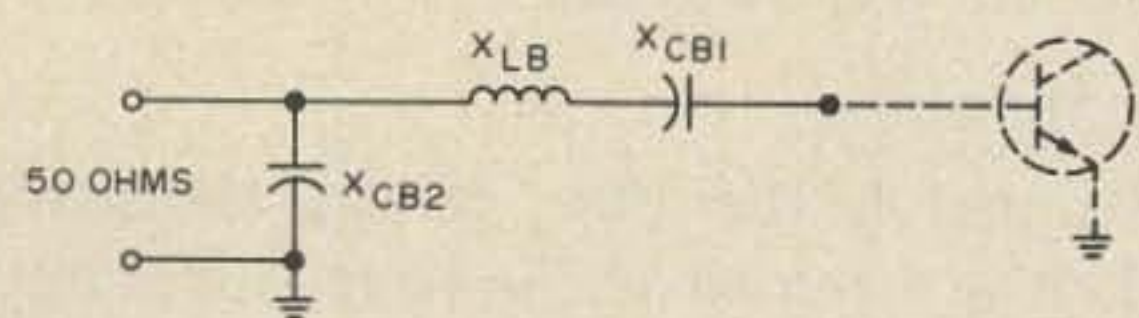

Fig. 11c.
3. We now may match the input impedance to 50Ω by using the simple impedance matching network shown in Fig. 11c.